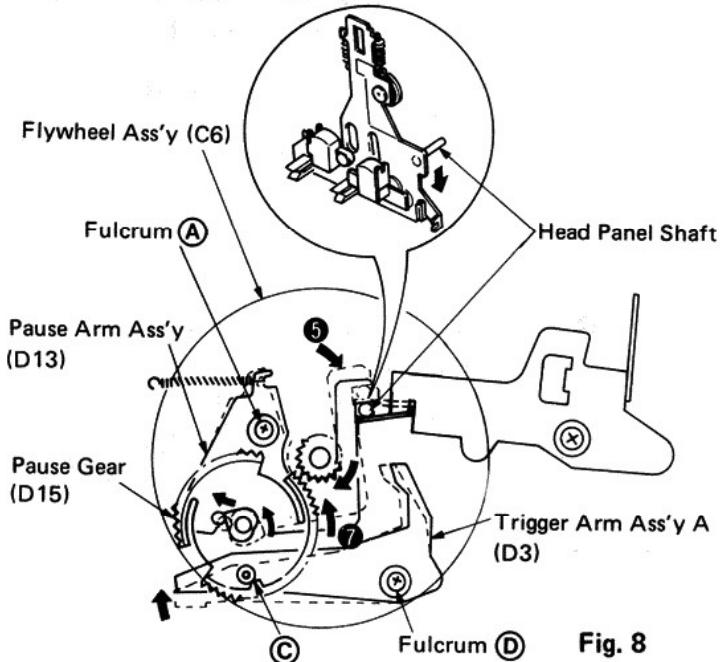
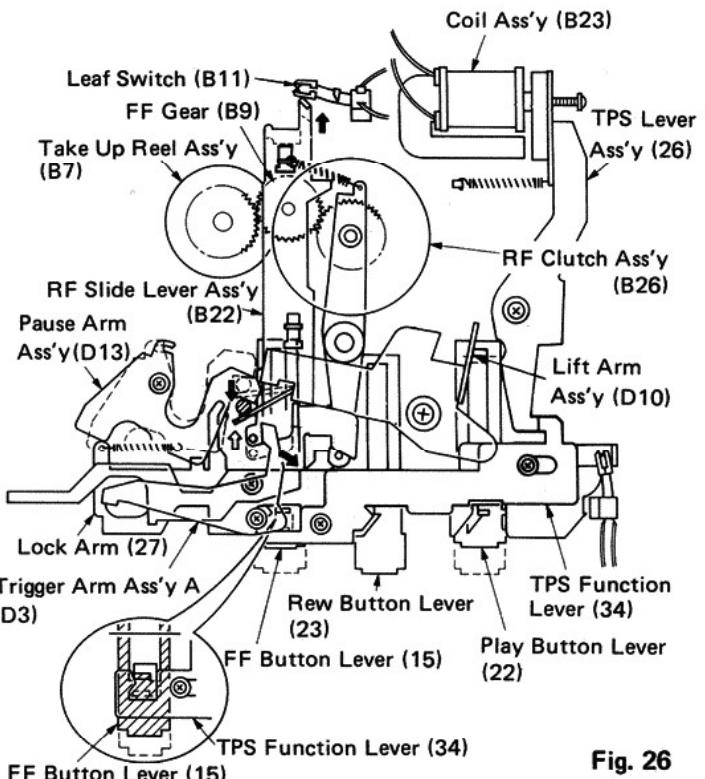

Fig. 8
Fig. 26
- When the pause gear (D15) rotates in the ⑦ direction, the pause arm assembly (D13) rotates around the fulcrum ④ in the ⑤ direction. Hence the head panel shaft (namely the head panel) makes a backward motion. (Fig. 8)
• Status Change into FF TPS Mode: (Fig. 26)
- When the leaf switch (B11) turns on, the tape output is muted. Since current flows in the coil assembly (B23), the TPS lever assembly (26) and the TPS function lever (34) are held. Consequently the FF button lever (15) maintains the pressed condition.
- On the other hand the forward movement of the RF slide lever assembly (B22) makes the trigger arm assembly (D3) move clockwise. Since this motion is the same as the pause button lever (21) being pressed (as shown in Fig. 8), the pause arm assembly (D13) pushes the head panel shaft as a result and the entire head panel is made to move backward.
- The gear of the RF clutch assembly (B26) meshes with the FF gear (B9) by the effect of the FF button lever (15). This gear coupling is further interlinked with the gear of the take-up reel assembly (B7). Thus the take-up reel rotates to assume an FF TPS condition. (Fig. 26)